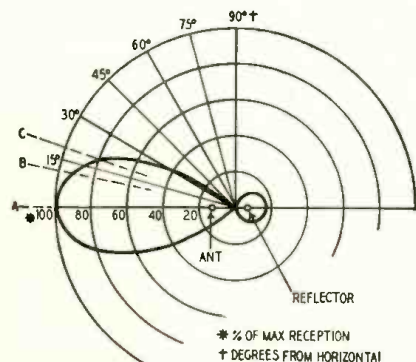
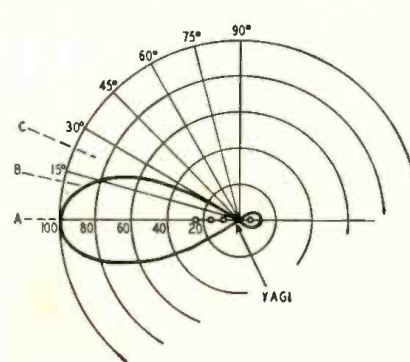

Fig. 1—Vertical-directivity pattern of a horizontal dipole with reflector. The principal lobe offers little discrimination against signals from B and C.
Fig. 2—Narrower vertical-directivity pattern obtained by adding director elements. The response to signals arriving from C has been reduced about 50%.
1. Broad-band preamplifiers and output amplifiers. One example is the Spencer-Kennedy Laboratories' "distributed" amplifier, used without either channel converters or a.g.c. The number of broad-band preamplifiers connected in cascade at the antenna site depends, naturally, on the incoming-signal level, amplifier gain, and the output level required to overcome cable losses and deliver adequate signal to the next amplifier. As many as three SKL broad-band amplifiers have been cascaded at the antenna site. See Fig. 1.
**Fig. 1—Block diagram of SKL (Spencer-Kennedy Laboratories) community-TV antenna system. Individual-channel antennas feed up to three cascaded broadband amplifiers through a matching network.**
Several factors must be considered. A dipole antenna with a reflector has the vertical-directivity pattern shown in Fig. 1 (looking at the antenna from the side). Single-bay antennas have a fairly broad pickup so that the reduction in strength for a signal arriving at an angle *B* or *C* is not too severe. When directors are added to such an antenna to form a Yagi the pattern elongates and becomes narrower as shown in Fig. 2. Here an upward tilt would be very helpful if signals arrive at an angle above the horizontal.